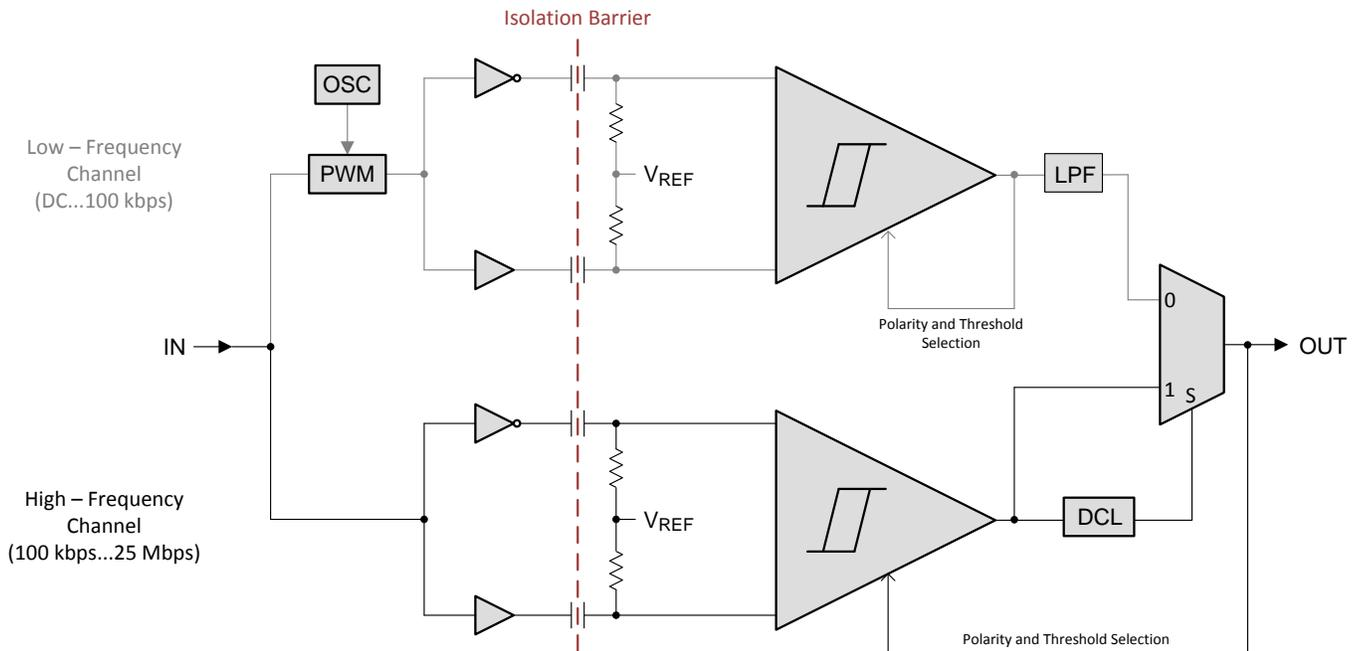

Figure 18. Conceptual Block Diagram of a Digital Capacitive Isolator
The isolator in Figure 18 is based on a capacitive isolation-barrier technique. The I/O channel of the device consists of two internal data channels, a high-frequency (HF) channel with a bandwidth from 100 kbps up to 25 Mbps, and a low-frequency (LF) channel covering the range from 100 kbps down to DC.